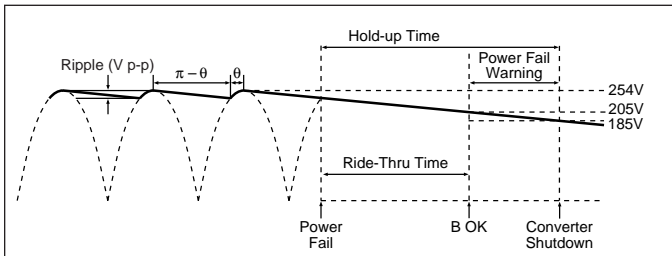
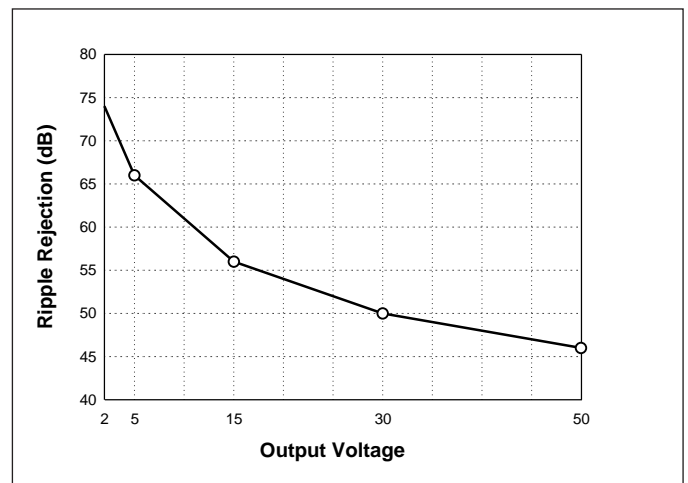

Figure 13—Hold-up time
Figure 17—Converter ripple rejection vs. output voltage
Hold-up capacitor values should be determined according to output bus voltage ripple, power fail hold-up time, and ride-through time (see Figure 13). Many applications require the power supply to maintain output regulation during a momentary power failure of specified duration, i.e., the converters must hold-up or ride through such an event while maintaining undisturbed output voltage regulation. Similarly, many of these same systems require notification of an impending power failure in order to allow time to perform an orderly shutdown.
The power fail warning time ( $\Delta t$ ) is defined as the interval between BOK and converter shutdown (EN) as illustrated in Figure 13. The Bus-OK and Enable thresholds are 205V and 185V, respectively. A simplified relationship between hold-up time, operating power, and bus capacitance is obtained by inserting these constants in equation (3):
For example, a converter whose output is 15V and nominal input is 300V will provide 56dB ripple rejection, i.e., 10V p-p of input ripple will produce 15mV p-p of output ripple (see Figure 17). Equation 3 is again used to determine the required capacitance. In this case,  $V_1$  and  $V_2$  are the instantaneous values of bus voltage at the peaks and valleys (see Figure 13) of the ripple, respectively. The capacitors must holdup the bus voltage for the time interval ( $\Delta t$ ) between peaks of the rectified line as given by:
**DC-DC Converter.** Figure 17 is used to determine the ripple rejection of the DC-DC converter and indicates a ripple rejection of approximately 60 dB for a 12V output. Since the ripple on the bus voltage is 12Vac and the ripple rejection of the converter is 60 dB, the output ripple of the converter due to ripple on its input (primarily 120 Hz) will be 12mV p-p. Note that 2nd Generation converters have greater ripple rejection than either VI-200s or VI-J00s.